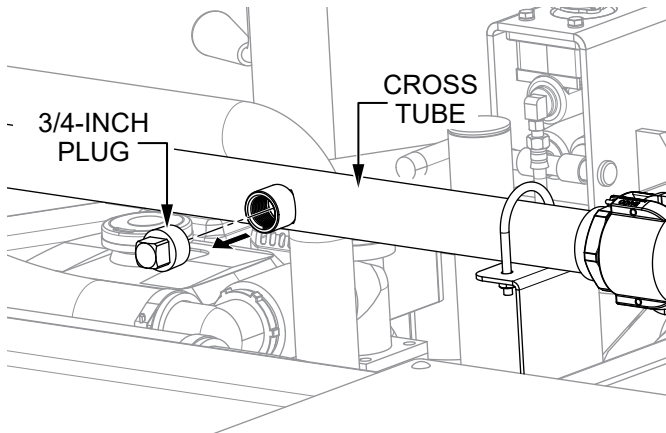

Figure 2. Remove 3/4-Inch Plug
1. Using a 5/8" wrench, remove the **3/4" plug** from the **cross tube** (Figure 2).